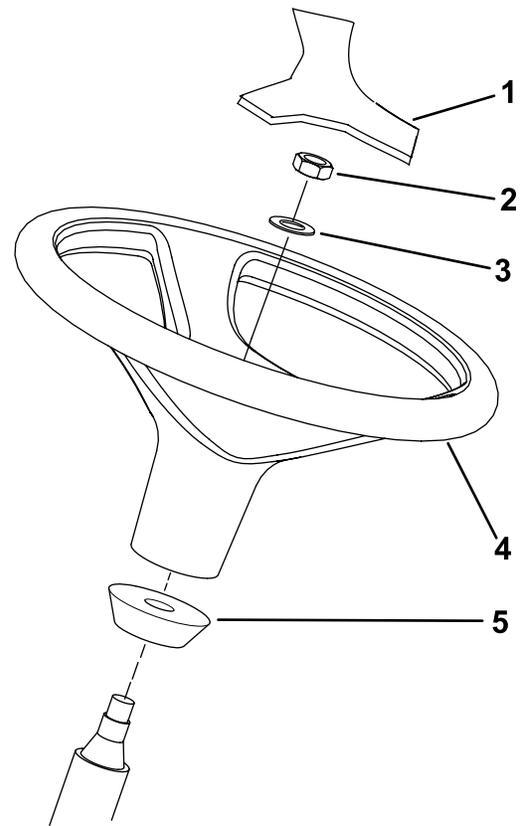

Figure 13
1. Remove the steering wheel from the shipping skid (Figure 13).
Note: Ensure that the foam collar remains on the steering shaft (Figure 13).
3. Slide the steering wheel and washer onto the steering shaft (Figure 13).
5. Mount the cover to the steering wheel (Figure 13).